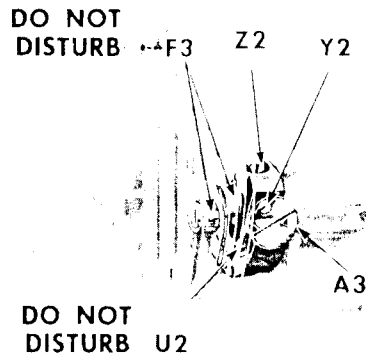
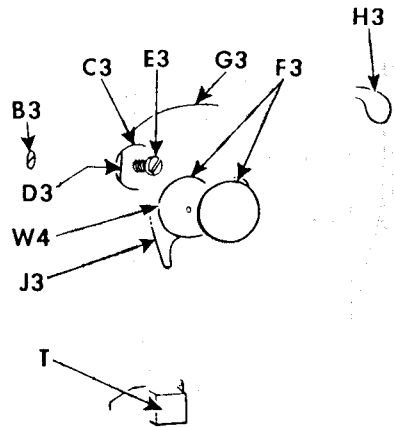

Fig. 50. Needle Bar Crank
Fig. 51. Needle Bar Link and Thread Take-up
1. Remove face plate and arm hole plug **A3**, Fig. 50 from machine.
2. Remove needle bar, upper needle bar bushing, presser bar and guide bracket **T**, Fig. 51 as instructed on page 35.
3. Loosen set screw **Y2**, Fig. 50 in needle bar crank, reaching with a screwdriver through the hole in the arm, opened by removal of plug **A3**, and turning machine pulley as required.
4. Using wrench 146057 (through same hole) and turning machine pulley as required, loosen the large hexagon head clamping screw **Z2**, Fig. 50, on the needle bar crank.
CAUTION: DO NOT DISTURB the smaller hexagon head position screw **U2**, Fig. 50, which holds the needle bar crank at its correct position on the horizontal arm shaft.
5. Loosen small set screw **B3**, Fig. 51 in the rear of the arm of the machine.
6. Insert a face plate screw **E3**, Fig. 51 in the tapped hole in center of stud **C3**, Fig. 51 and, while holding back the needle bar link inside the head at **G3**, Fig. 51, pull upon the screw **E3** until the stud **C3** is removed. Remove face plate screw from stud.
7. Back the end of the take-up **H3**, Fig. 51 toward the inside of the machine turning the machine pulley, as required until the take-up is free of the slot provided for it.
8. The needle bar link **G3** and take-up **H3** can now be pulled free of the needle bar crank **WITHOUT DISTURBING THE NEEDLE BEARINGS F3**, Fig. 50.
NOTE: If the needle bearings **F3**, Fig. 50, are accidentally disturbed, they must be re-assembled so that **there are exactly 18 bearings in each of the two assemblies.**
1. Make sure that the wearing plate **J3** is in place on the face of the needle bar crank, as shown in Fig. 51. Place the needle bar link **G3** and take-up **H3** in the head of the machine so that the stud in the center of the linkage slips into the hole provided for it in the needle bar crank, as shown in Figs. 50 and 51.
3. Insert stud **C3** through needle bar link **G3** and into its hole in the machine casting so that the **flat on the stud faces the rear** of the machine. The mark **D3** on the stud indicates the position of this flat. Fig. 51 shows the stud with the mark **D3** in the correct position.
8. Replace guide bracket **T** in head of machine, as shown in Fig. 51.